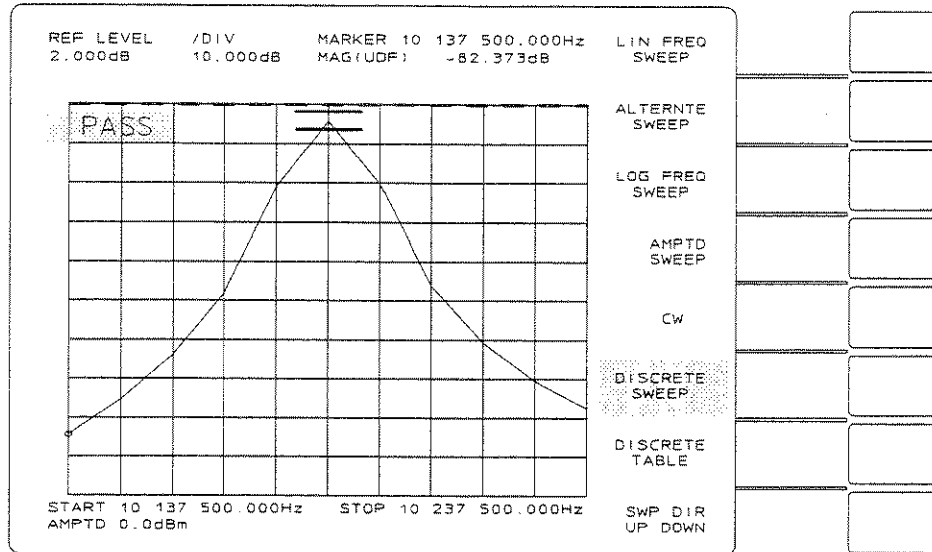

Figure 2-31B. Discrete Sweep Display
- Press [ RETURN ] and observe the discrete sweep display as shown in figure 2-31B.